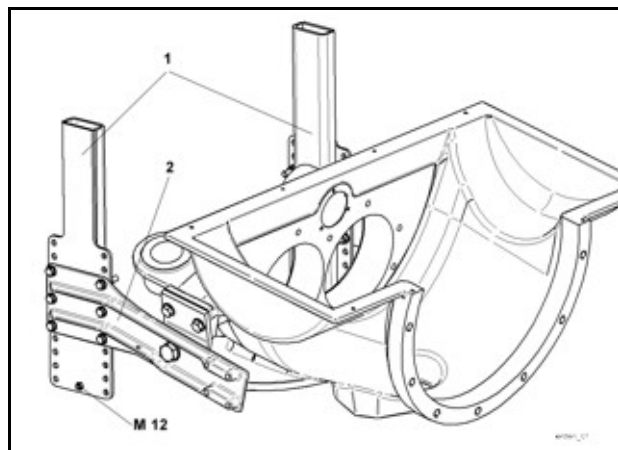

Fig. 161 Rock valve support
A stainless steel screw M12 with nut is pre-installed for the earthing connection on one of the two vertical spars (1) (**Fig. 161**) on the rock valve support (screw inside, nut outside).